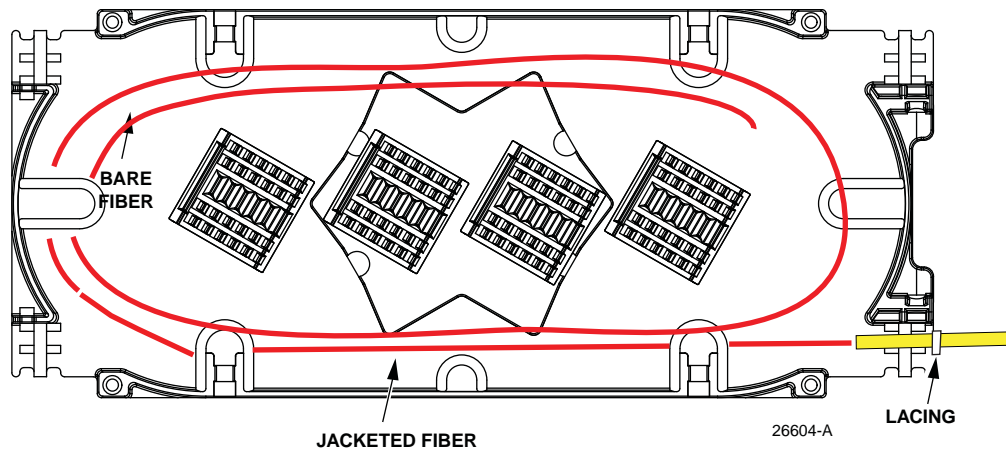
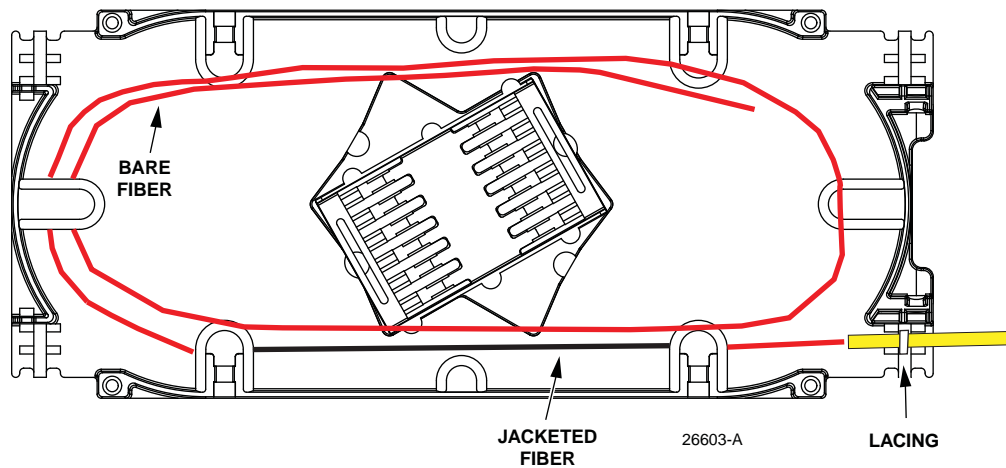

Figure 27. Stranded Pigtails Splice Tray Cable Routing (for pigtails routed clockwise)
Figure 28. Ribbon Pigtails Splice Tray Cable Routing (for pigtails (for pigtails routed clockwise))
▶ **Note:** Pigtails wound in a clockwise direction should enter the splice tray at the bottom right as shown in Figure 27 for stranded pigtails and Figure 28 for ribbon pigtails. Pigtails wound in a counterclockwise direction should enter the splice tray on bottom left (mirror image of routing shown in figures).